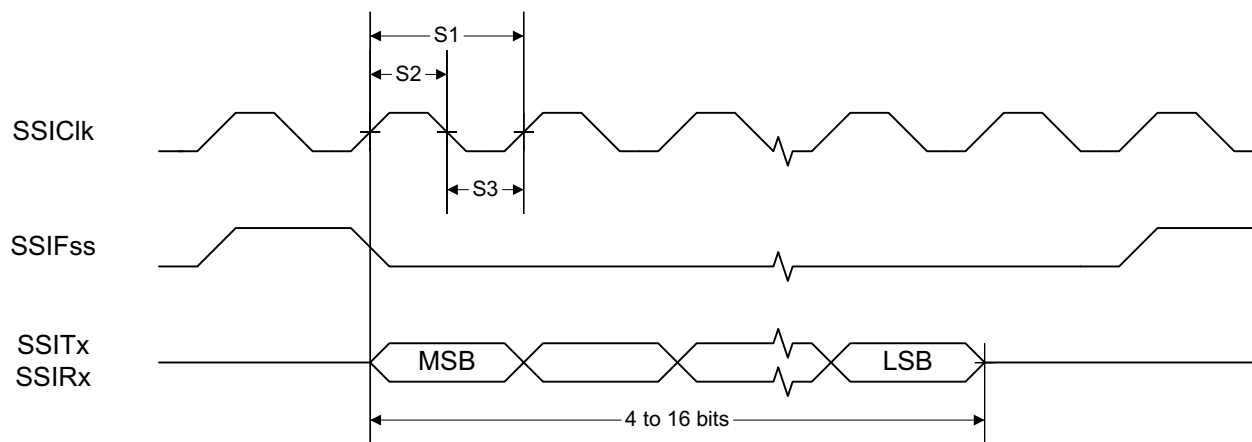

FIG 8-1. SSI Timing for TI Frame Format (FRF = 01), Single Transfer Timing Measurement
(1) Refer to SSI timing diagrams Figure 8-1, Figure 8-2, and Figure 8-3.
(2) When using the TI-provided Power driver, the SSI system clock is always 48 MHz.